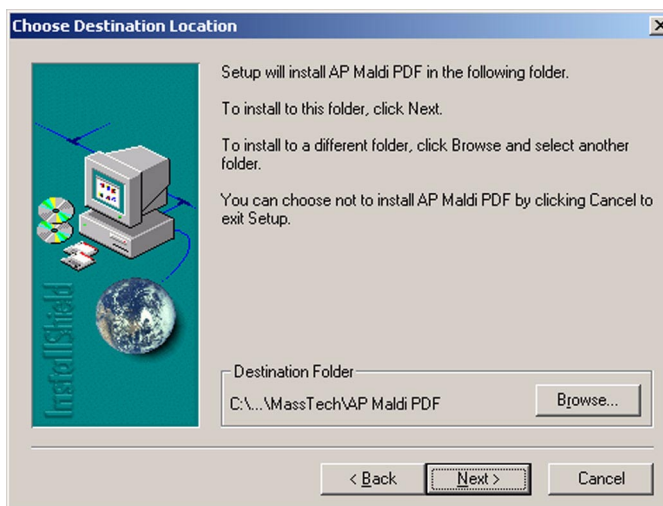

Figure 48 Choose destination location for Target software
- 3 Choose a location and folder name for the Target software. By default, the folder is **C:\Program Files\MassTech\AP MALDI PDF**. See Figure 48.